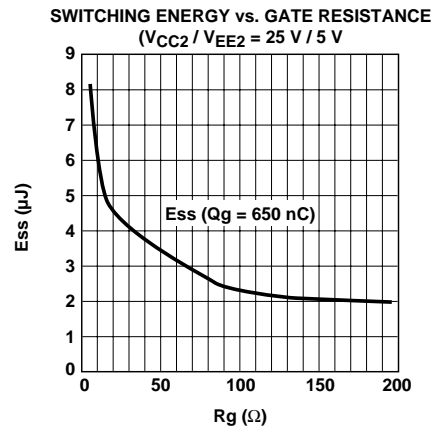

Figure 77. Switching energy plot for calculating average  $P_{switch}$  (for HCPL-316J output driving an IGBT rated at 600 V/100 A).
2. Calculate total power dissipation in the part referring to Figure 77.
For  $R_G = 10.5$ , the value read from Figure 77 is  $E_{SWTICH} = 6.05 \mu\text{J}$ . Assume a worst-case average  $I_{CC1} = 16.5 \text{ mA}$  (which is given by the average of  $I_{CC1H}$  and  $I_{CC1L}$ ). Similarly the average  $I_{CC2} = 5.5 \text{ mA}$ .
$P_i = 90.8 \text{ mW}$ ,  $P_o = 314 \text{ mW}$ ,  $T_A = 100^\circ\text{C}$ , and assuming the thermal model shown in Figure 77 below.